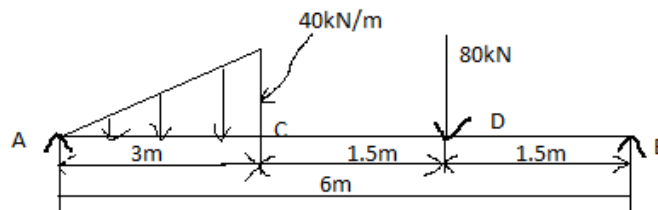

Fig. Q 6(a)
- 6 a. A simply supported beam AB of 6 m span is loaded as shown in Fig. Q 6(a). Draw shear force and Bending moment diagrams. 8